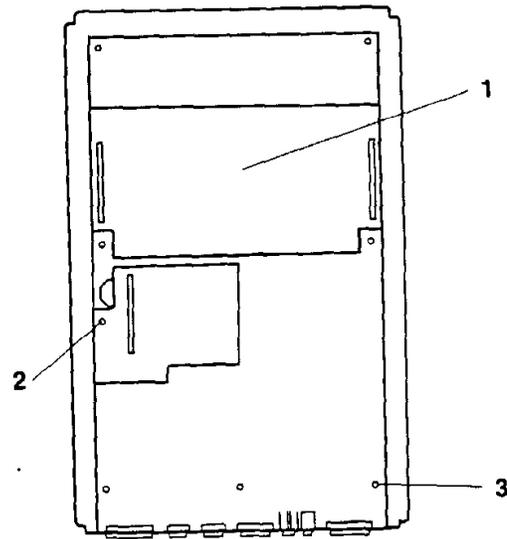

FIGURE 9
14. Lift up and remove the encoder board from its connector. (See Figure 9, Item 2). You may also have to lift it off a standoff that is on the main logic board of some Apple III's.
15. Place the logic assembly flat on the work surface, use both hands to lift off the memory board (See Figure 9, Item 1) from the main logic board (Motherboard).